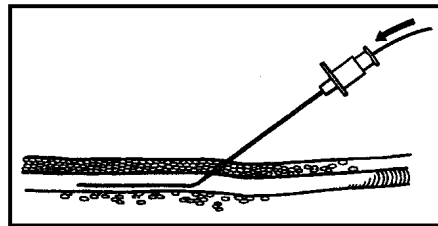

Figure 3-21
- (f) Immediately place the curved tip (straightened using the plastic adapter included in the kit) of the guide wire into the needle hub and begin to advance the wire into the vein through the needle. (See Figure 3-21.)